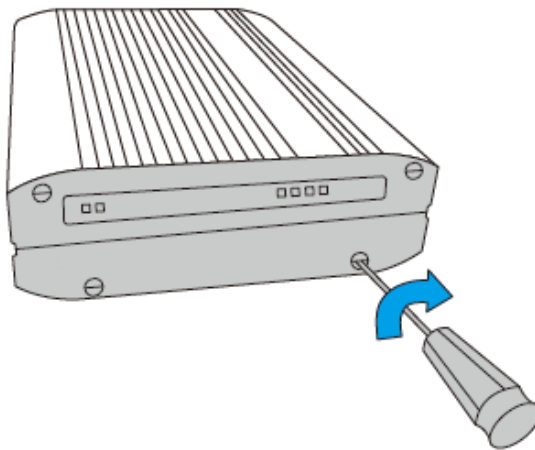

Figure 3-5: HDD Installation
Step 6: Close the front panel and fasten the screws (**Figure 3-5**).